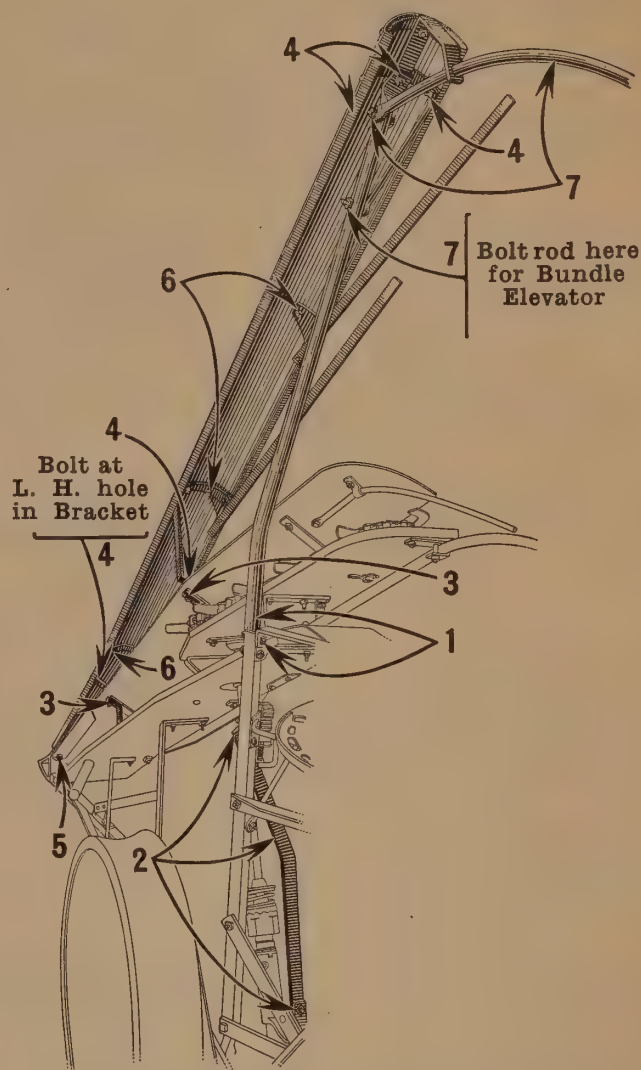

Fig. 57
1. (Fig. 57.) Bolt L. H. Extension Gatherer Support Pipe to Upper End of Binder Support Angle, with longer bolts found in pipe.
2. (Fig. 57.) Clamp Angle Brace to Main Frame Center Cross Sill. Angle goes to **front** of sill **between** Main Wheel Axle Bracket and Binder Deck. Clamp plate goes to **rear** of sill. Upper end of Brace bolts to front of Extension Gatherer Support Pipe and Binder Support Angle, at **lower** bolt for Twine tension.
3. (Fig. 57.) Bolt Bracket Supporting Braces (2) to **underside** of L. H. Gatherer Top Board, Lower, at middle and upper end with longer bolts found in braces. These strengthen the present brackets and will be found wired to supporting brackets for Extension Gatherer.
4. (Fig. 57.) Set L. H. Extension Gatherer in place and bolt brackets to Gatherer Top Board, Lower—with longer bolts found in brackets. **Lower Bracket bolts at L. H. hole in Bracket so there is a throat clearance of about 5"**—Upper End of Extension Gatherer bolts to Supporting Pipe and to round brace.
5. (Fig. 57.) Bolt L. H. Extension Gatherer Shield, Lower, **between** Gatherer Point and Board—Upper end bolts to **top** of Gatherer Shield, Upper.
6. (Fig. 57.) Bolt the three throat springs to **underside** of L. H. Extension Gatherer Shield—Slotted holes in brackets provide the proper setting of tension to hold stalks into chains of R. H. Extension.
7. (Fig. 57.) Insert rear end of L. H. Bundle Guide Rod through support at upper end of Extension Gatherer and bolt front end to Extension Gatherer Supporting Pipe—Bolt rod at upper hole in supporting pipe for **Bundle Carrier** and at **lower** hole for **Bundle Elevator**.